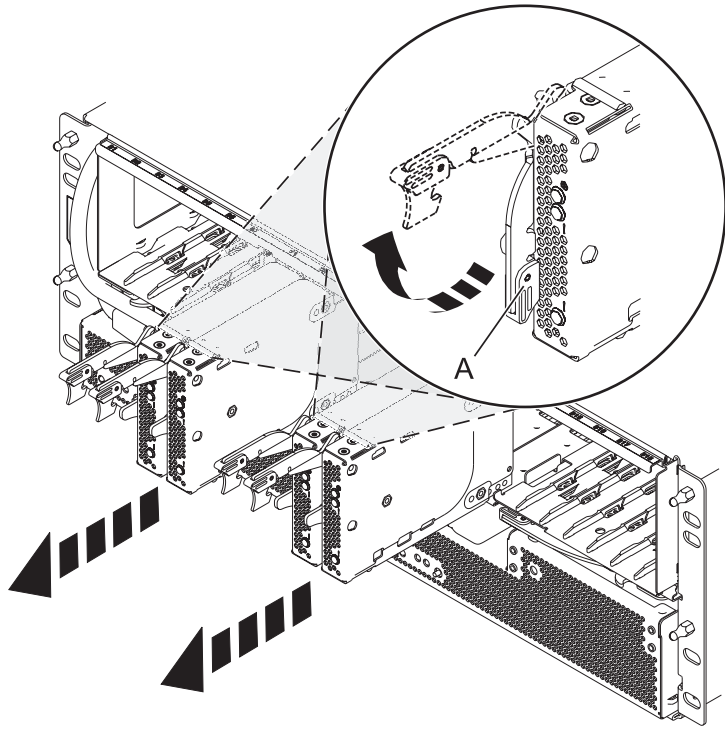

Figure 62. Removing the port card from the backplane
5. Remove the port cards and fillers as shown in Figure 62 on page 79.
- a. Hold the end of the latching handle (A) and pull it upward to unlock the port card.